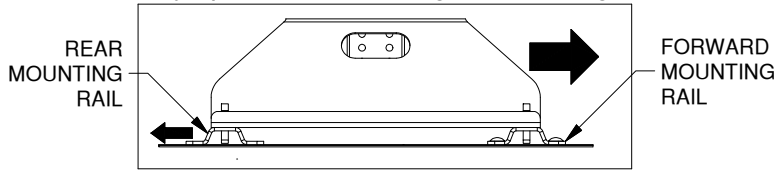

Figure C2: Side view of RV base and mounting rails.
2. **IMPORTANT:** Before drilling rear mounting holes pull the RV base towards the cab of the truck and push the rear rail towards the rear of the truck to correctly space the mounting rails, see figure C2.